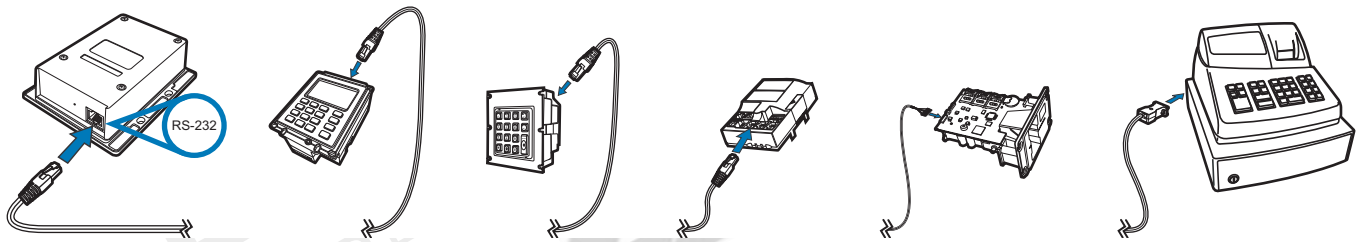

Figure 6 Various QX700 Cabling Connections
- 2 Connect the other end of the cable to the connector (device dependent) of the controlling device. See Figure 6 for different cabling situations.